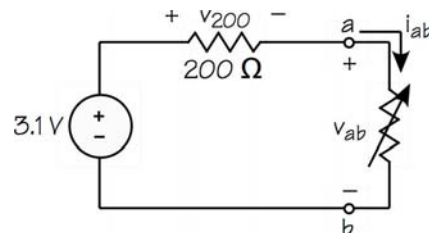

Fig. 2—Test Method
5. Now put the 1-kΩ pot into the circuit. Refer to the text and drawings of Lab A4 if you need help. The a and b terminals of the pot should be as shown in Fig. 2.